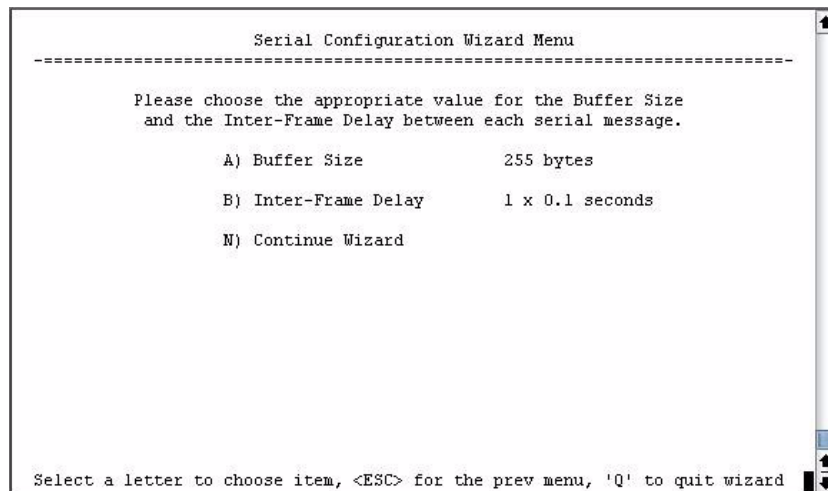

Figure 3-57. Buffer Size and Inter-Frame Delay Values
- The screen shown in Figure 3-57 appears next. Press **A** to select the Buffer Size of message packets, and **B** to select the Inter-Frame Delay. Press **N** to continue with the wizard.